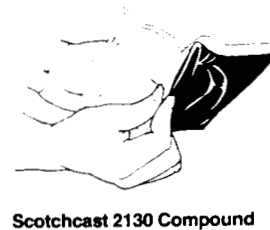

Figure 7
2. Firmly grasp each flat side of the "Unipak" container near the center barrier; at the same time, pull sides of barrier apart and roll sides of thumbs through barrier. Break the barrier all the way across to the side seals. (Figure 7)